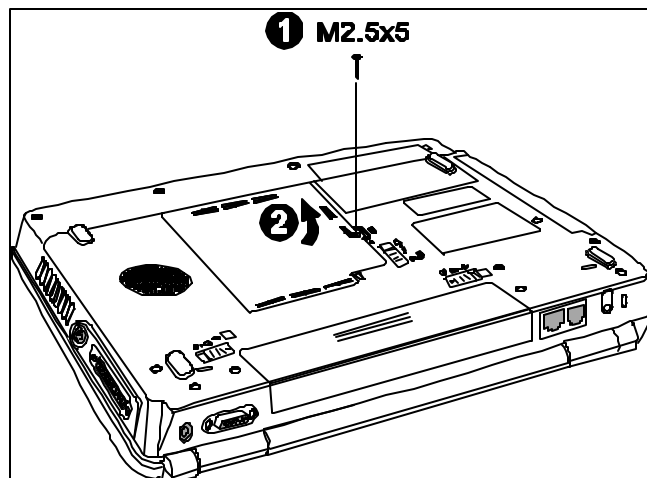

Figure 4-12 Removing the memory module cover
1. Remove the Modem cover.(Refer Figure 4-12)